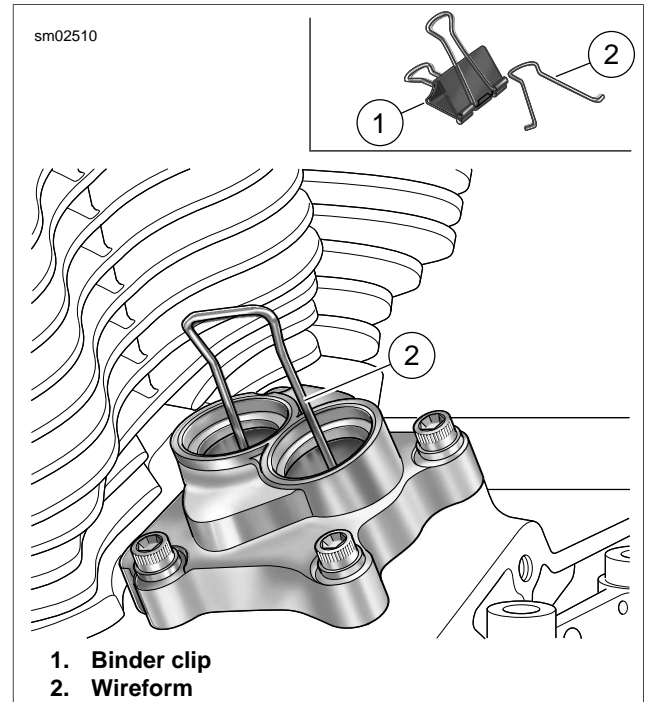

Figure 3-112. Hydraulic Lifter Holding Tool
2. See Figure 3-112. Fashion lifter holding tool to prevent the hydraulic lifters from dropping into the cam compartment during cam support plate removal.
- a. Obtain a large binder clip (1) which is available at any office supply store. Squeeze wireforms (2) to remove from binder clip.
- b. Compress wireform (2) slightly and insert free ends into outer and inner lifter cover bores so that legs engage walls of both hydraulic lifter sockets.